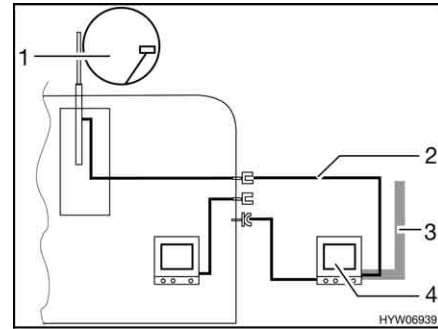

Fig. 99 TV in the awning
- TV inside the awning (Fig. 99,4): Connection to roof antenna (Fig. 99,1) with connection cable (Fig. 99,2)
- TV inside the awning (Fig. 99,4): Connection to external antenna (Fig. 99,3)